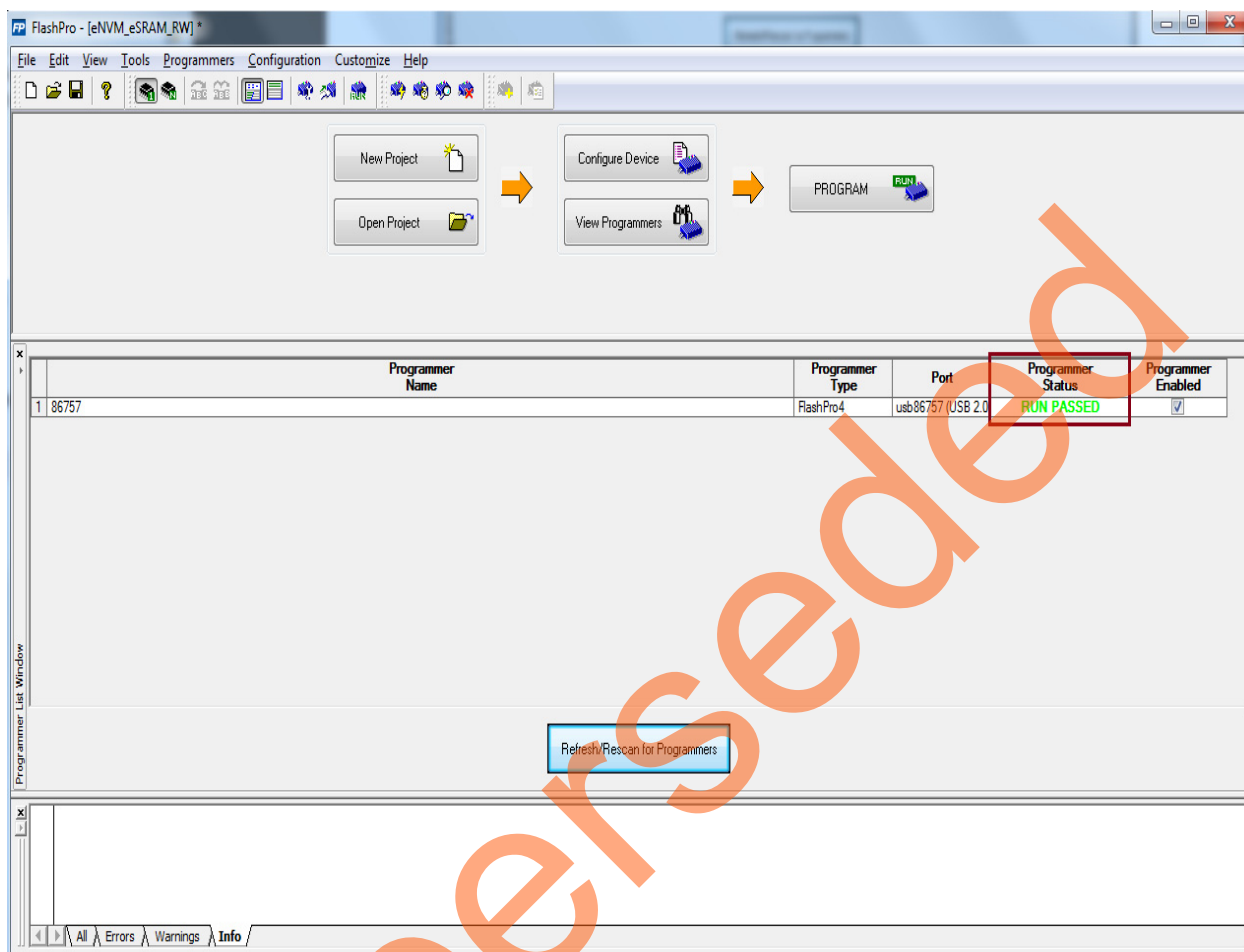

Figure 20 • FlashPro - RUN PASSED
4. Click **PROGRAM** to start programming the device. Wait until the Programmer Status is changed to **RUN PASSED** highlighted in Figure 20.